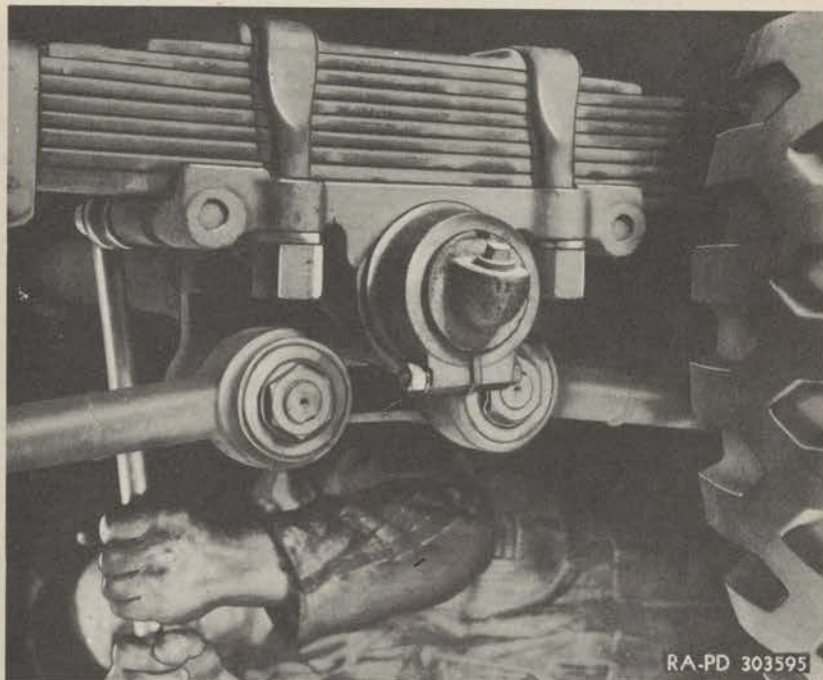

Figure 150—Tightening Spring Seat Clamping Bolts
b. **Tightening Spring Seat.** Before tightening the U-bolts, tighten the spring seat clamping bolts to line up the spring in the seat (fig. 150). Then tighten the U-bolt nuts to pull the spring down as tightly as possible. This should be done at every regular vehicle inspection.